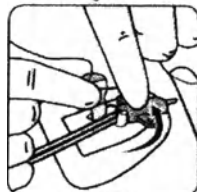

Figure 7
5. Remove device tape strip from catheter lumen(s). **Figure 7**